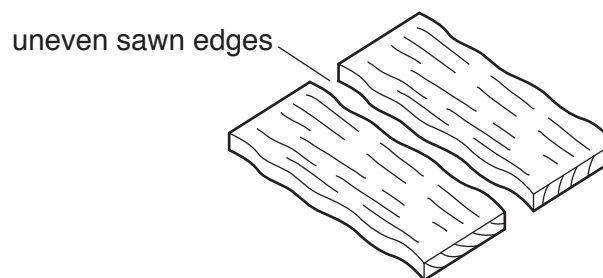

Fig. 13
- (b) The platform for the stool is 250 wide. The widest available hardwood board is only 150 wide. Fig. 13 shows two boards, each 150 wide.